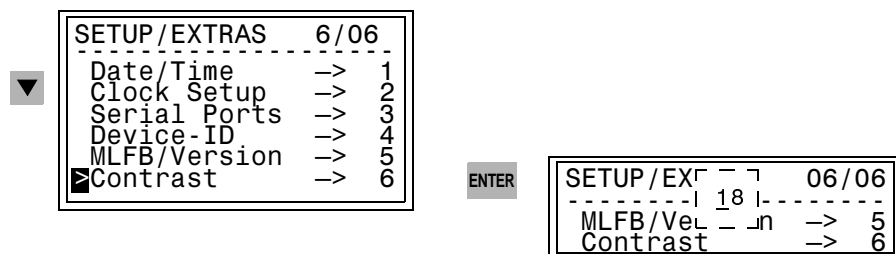

Figure 3-3 Operating Sub-menu for Adjusting the Display Contrast
- Using the **▼** key, select the menu item **Setup/Extras** and switch to the selection **SETUP/EXTRAS** using the **▶** key. See Figure 3-3.